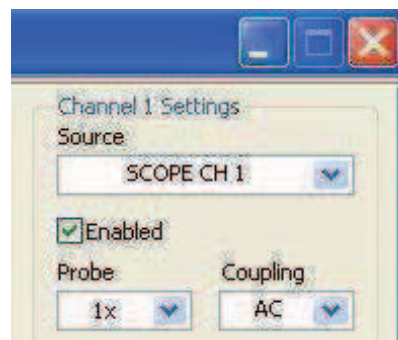

Figure 4
8. Activate the scope's Channel 1 input by checking (that is, putting a tick in) the Channel 1 *Enabled* box as shown in Figure 4 below.